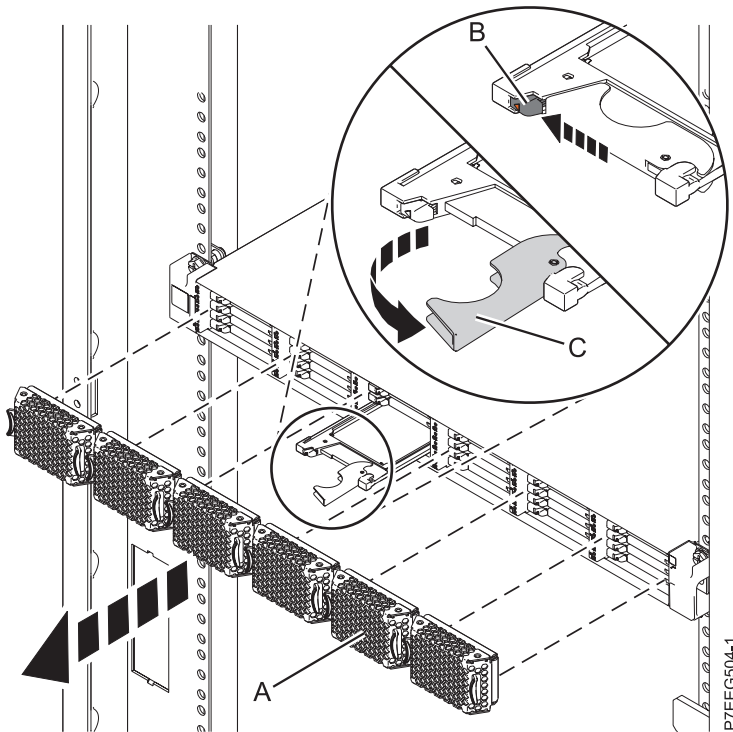

Figure 29. Removing the solid-state drive from the 5888 PCIe storage enclosure
1. Pull off the bezel (A) that covers the slot containing the solid-state drive.
2. Slide the release latch (B) over gently to unlock the drive handle, see Figure 29 on page 44.